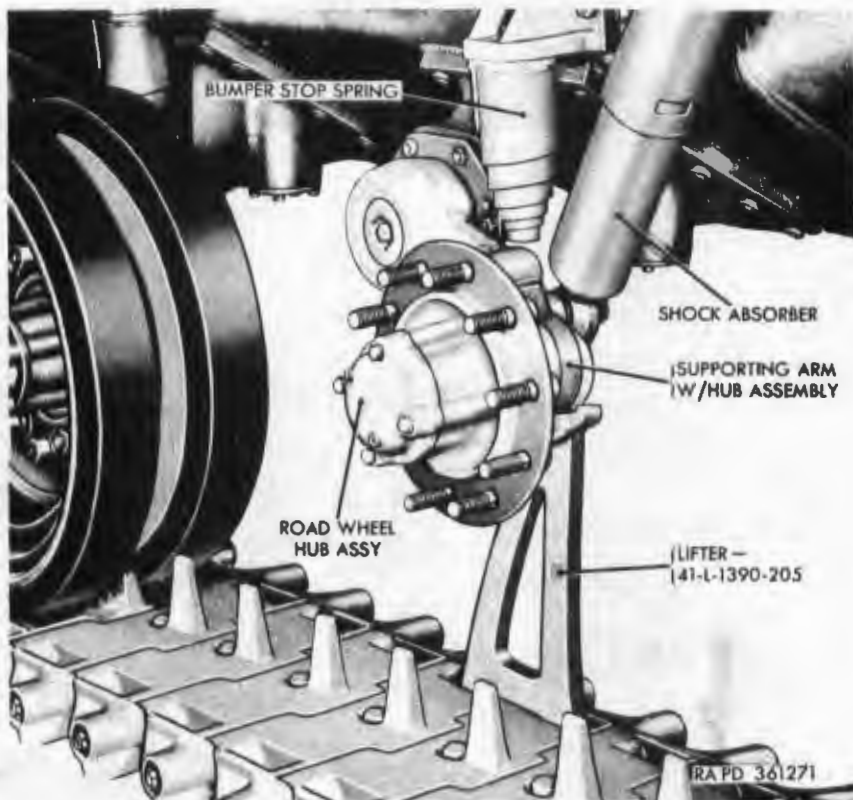
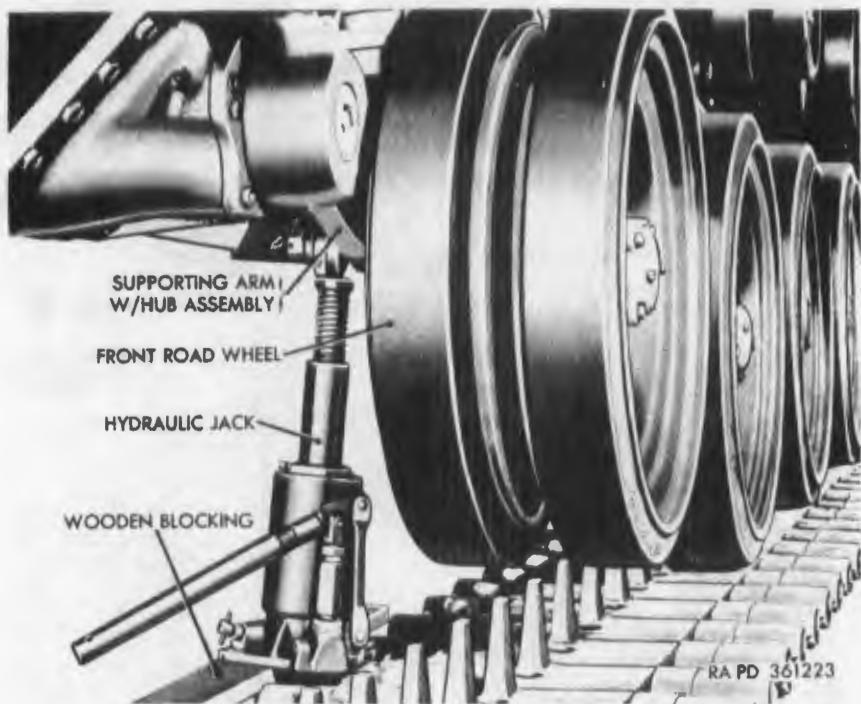

Figure 212. Lifting road wheel with lifter 41-L-1390-205.
Figure 213. Lifting road wheel with hydraulic jack.
b. Removal. Loosen 10 locknuts (T, fig. 209), but do not remove at this time. Install lifter 41-L-1390-205 (fig. 212) with the lower or claw end facing the front of the vehicle.
Note. If lifter 41-L-1390-205 is not available, road wheel can usually be raised by a hydraulic jack (fig. 213) positioned under the lower end of the shock absorber.
e. Installation. With the road wheel hub raised by means of lifter 41-L-1390-205 (fig. 212) or the hydraulic jack (fig. 213), position road wheel disks (V, fig. 209) on hub assembly. Install ten $\frac{3}{4}$ -inch locknuts (T, fig. 209) and remove hydraulic jack. If lifter is used, drive vehicle backward slowly until the road wheel is on the track assembly and lower or claw end of lifter is free of the track shoe. Remove lifter. Tighten locknuts to 250 to 300 pound-feet torque. Adjust track assembly tension (par. 220f).
- (c) Run vehicle slowly backwards until road wheel lifter (fig. 212) is free, supporting arm lowers, and torsion bar load tension is relieved.